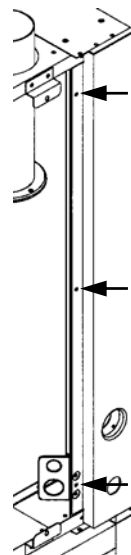

Figure A.3
- 6) Remove rear RH side corner panel (power and water entry points), secured with 3 screws at front edge of panel. (Figure A.3)
- 2) Remove rear RH side corner panel (power and water entry points), secured with 3 screws at front edge of panel (Figure A.3).
- 9) Replace rear RH panel (Figure A.3) on each unit using original screws.